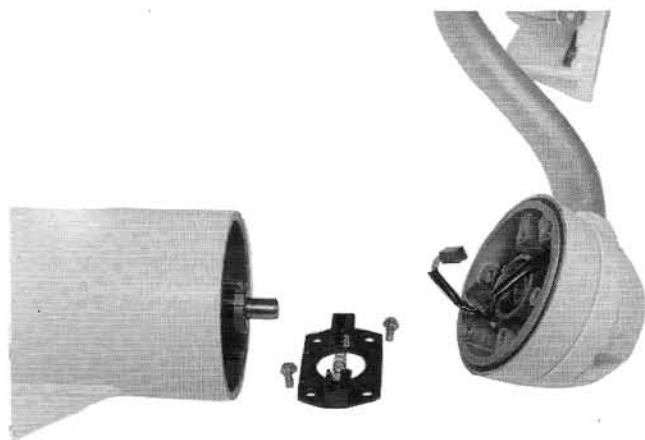

Figure 1
1. Remove two screws from propeller end of motor and remove motor from commutator head. Remove brush holder. See Figure 1.